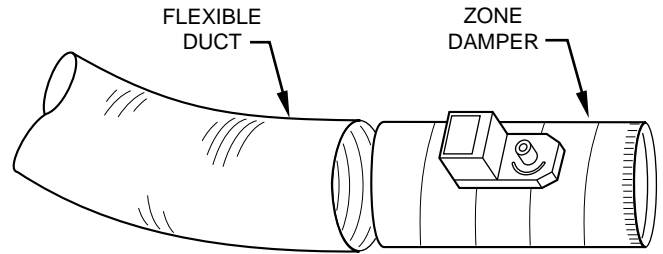

Fig. 8—Round Flexible Ductwork A95132
1. Slip 1 end of flexible ductwork over 1 end of zone damper. (See Fig. 8.)